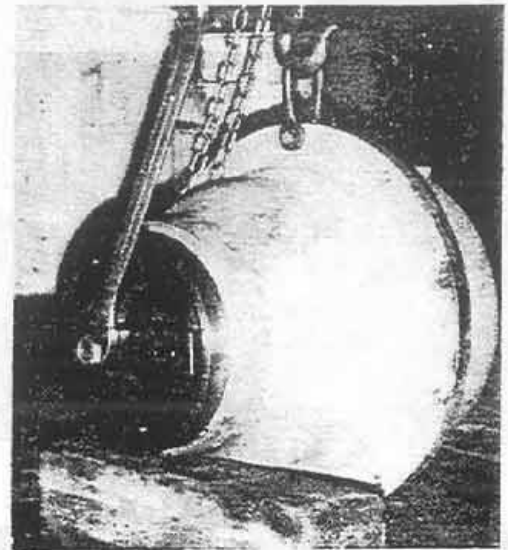

Figure 1:
2. Support the hub assembly on a lifting fixture and wood block as shown (Fig. 1).